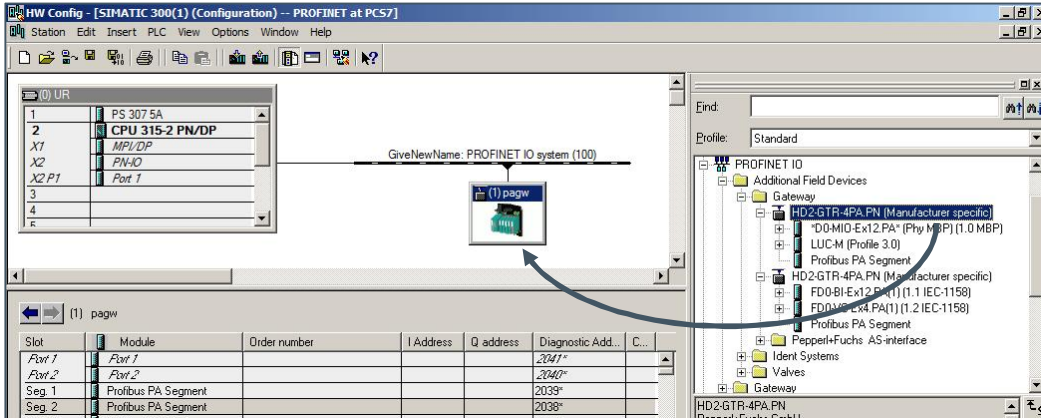

Figure 27: Drag and drop gateway to PROFINET IO system
- 1) Drag and drop the corresponding gateway to the PROFINET IO system. At the right side of the window, click **PROFINET IO > Additional Field Devices > Gateway > HD2-GTR-4PA.PN** (see: Figure 27: Drag and drop gateway to PROFINET IO system).